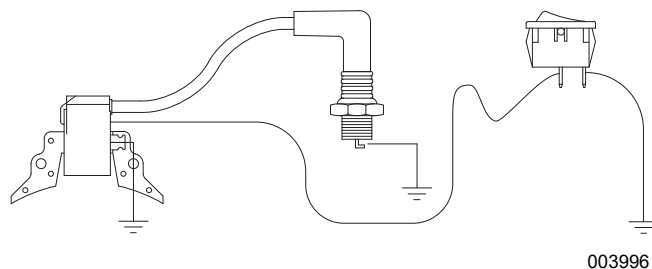

Figure 4-6. OFF-ON Switch Test Points
1. See **Figure 4-6**. Disconnect Point A from switch.